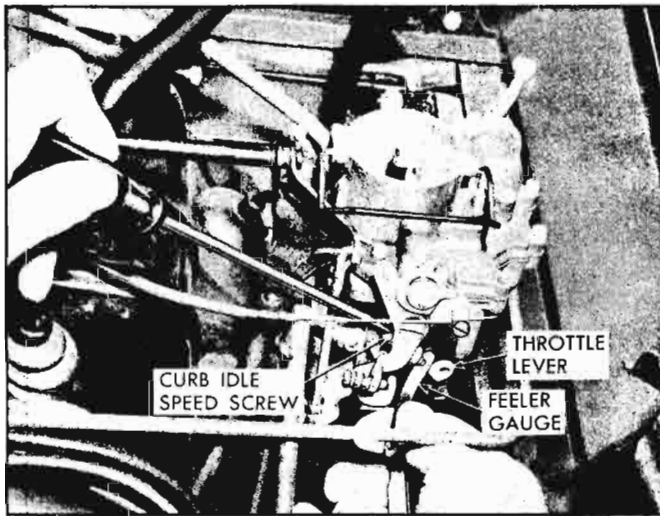

Fig. 9-9—Curb Idle Speed Screw Adjustment
- b. **Curb Idle Speed**—Place a .003" feeler gauge between the curb idle speed screw and the carburetor throttle shaft lever (fig. 9-9). Turn the screw until it just contacts the gauge, then remove the gauge and turn the screw $1\frac{1}{2}$ more turns to set the throttle valve.